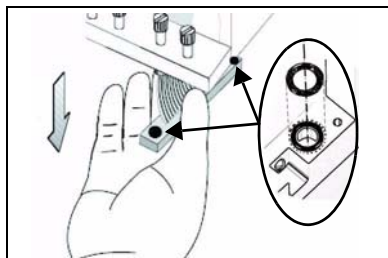

Figure 7-65: O-ring seals on the print head
14. Inspect the replacement head, and make sure that the O-ring seals are in place (see figure 7-65).